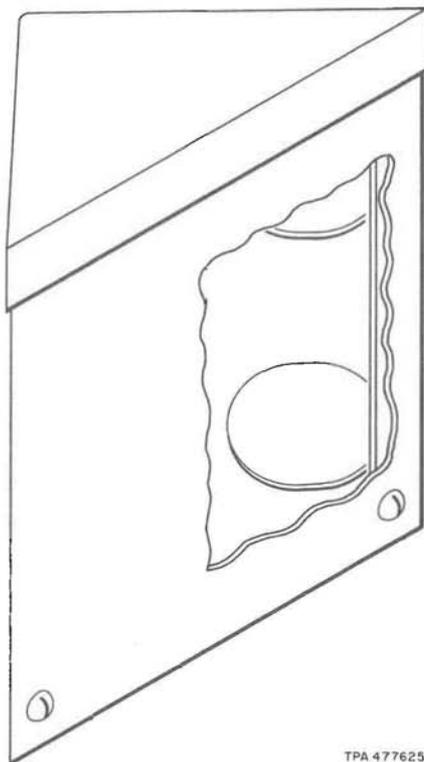

Fig. 13—KS-19426, List 16 Wire Housing
2.23 A List 16 wire housing (Fig. 13) provides a channel through which interconnecting wires are to be run when mountings are installed back-to-back on posts.